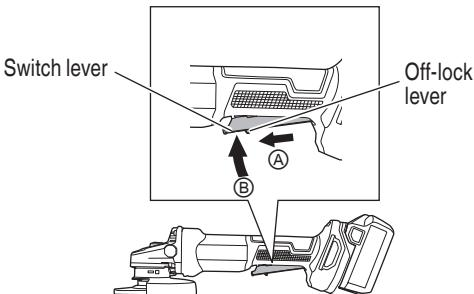

Fig. 15
2. Turn the grinder "on". (Fig. 15)
To switch on, slide the off-lock lever in the direction of Ⓐ and press the switch lever in the direction of Ⓑ as shown in Fig. 15. Release the switch lever to switch off.